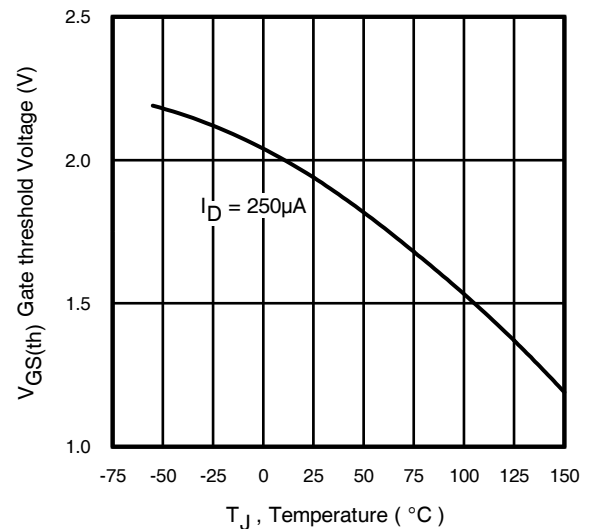

Fig 14. Threshold Voltage vs. Temperature
7. ΔT = Allowable rise in junction temperature, not to exceed T_{jmax} (assumed as 25°C in Figure 14, 15).